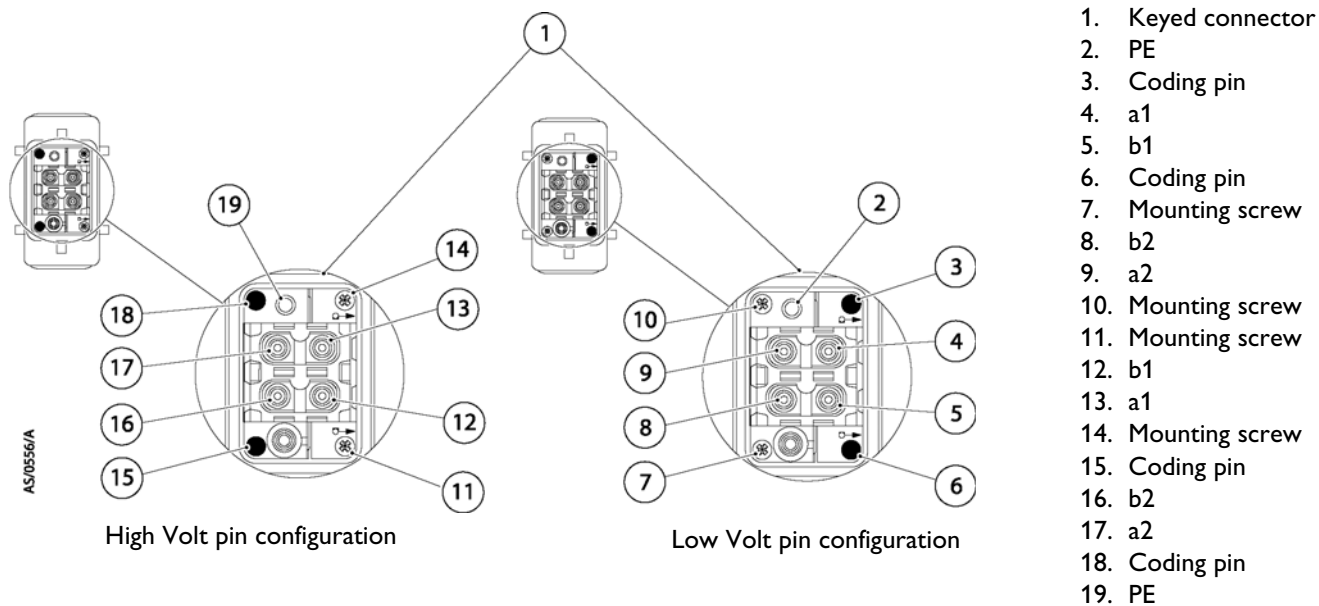

Figure 7 - High and low volt coding pin arrangement
2. Fit the coding pins to the connector block according to the voltage variant as shown in Figure 7 'High and low volt coding pin arrangement'.